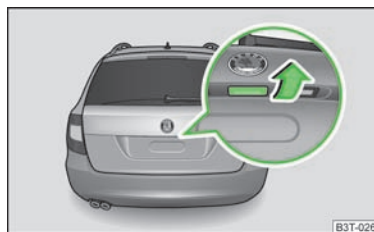

Fig. 20
- Press the handle and simultaneously lift up the boot lid » Fig. 20.